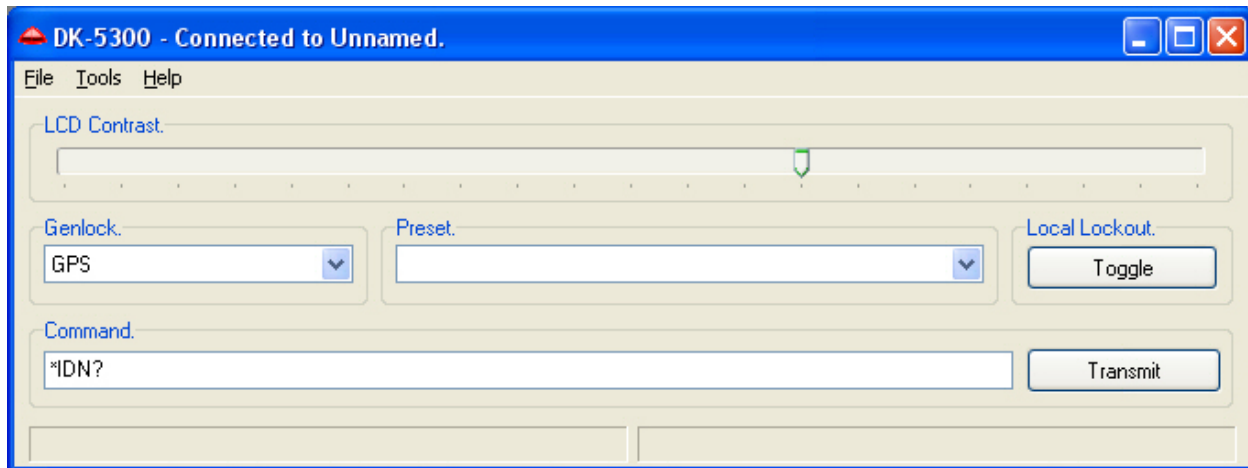

Figure 9: The DK-5300 main window.
- When a connection with a PT5300 has been established, the main window will then show basic options for remote control. (Figure 9).